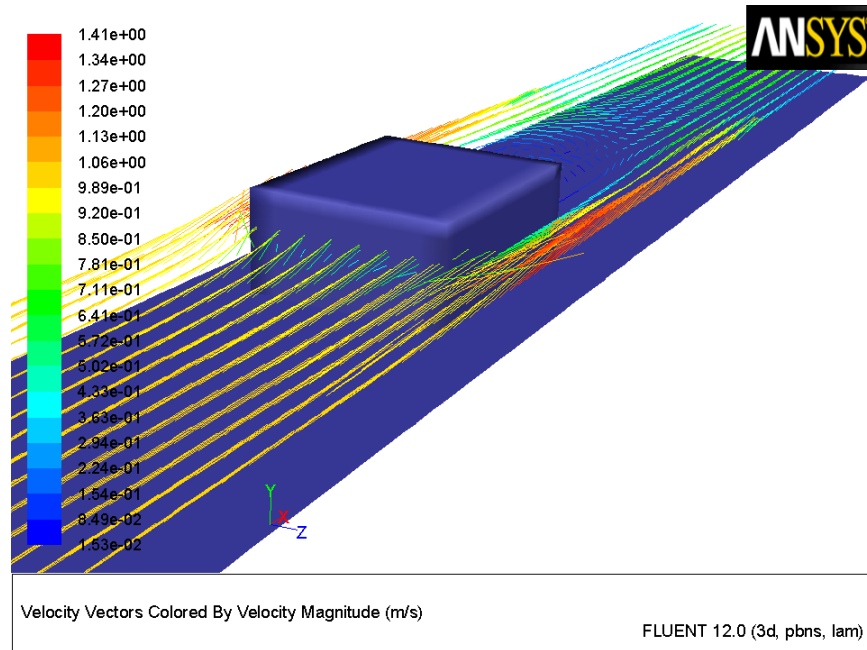

Figure 24.12: Velocity Vectors After Mirroring
4. Mirror the view about the chip symmetry plane (Figure 24.12).
The display will be updated in the graphics window (Figure 24.12).